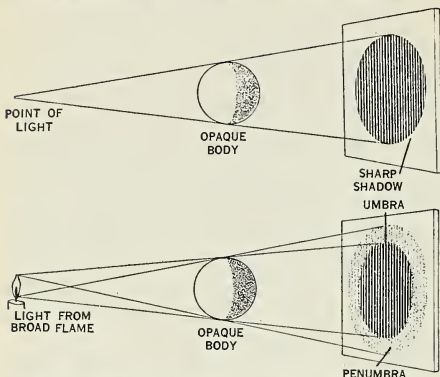

Fig. 226. Shadows from a point of light and from a broad flame.
**Shadows.** Any opaque object in the path of rays of light will stop them, and the space behind the opaque body will be in shadow. If the rays of light come from a point, an opaque object will cause a shadow with sharp edges (Fig. 226). If, however, the source of light is a broad flame, or the broad disk of the sun, the darkest part of the shadow, called the *umbra*, will be edged by a lighter band, which shades off gradually to the full illumination where there is no shadow at all. This band or edge is called the *penumbra*; it arises because points near the edge of the shadow get light from a
part of the source of light, but not from all (Fig. 226). The farther the shadow from the object, the wider the penumbra, and the more gradual the shading off from the umbra to full illumination.